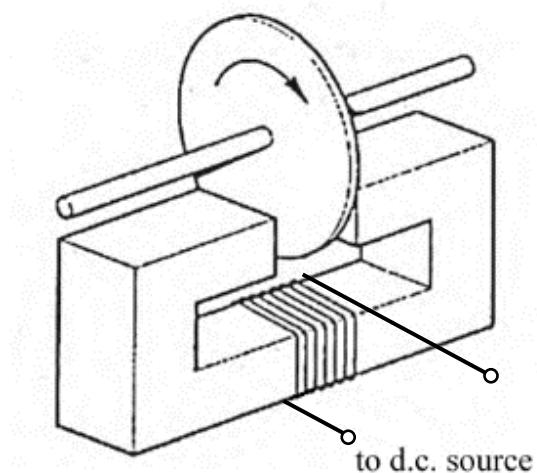
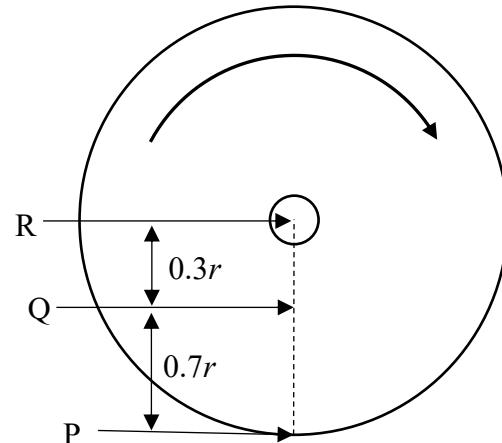

Fig. 5.1
Fig. 5.2
- 5 (a) A copper disc of radius r is made to spin at a constant rate between the poles of an electromagnet as shown in **Fig. 5.1**. When a voltmeter was connected across points P and R (see **Fig. 5.2**) by means of frictionless brushes, an e.m.f. of 10.0 mV was measured.
- (i) On **Fig. 5.2**, indicate clearly the direction of the magnetic field acting on the disc. [1]
- (ii) On **Fig. 5.1**, indicate the polarity of the ends of the electromagnet facing the disc, using the letters 'N' and 'S'. [1]
- (iii) On **Fig. 5.1**, indicate clearly the direction of current in the coil. [1]